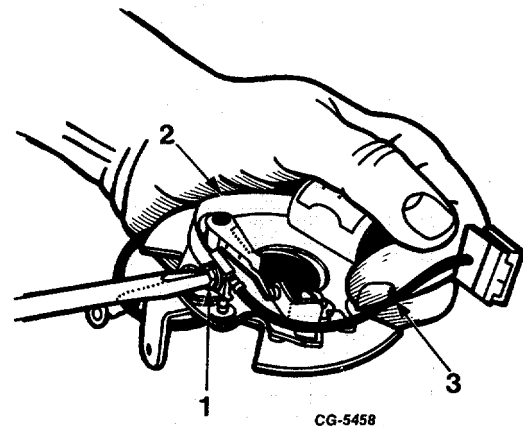

Fig. 11 Loosening Contact Point Terminal Screws
- a. Loosen contact point terminal screw and disconnect the primary and condenser lead (Figure 11).